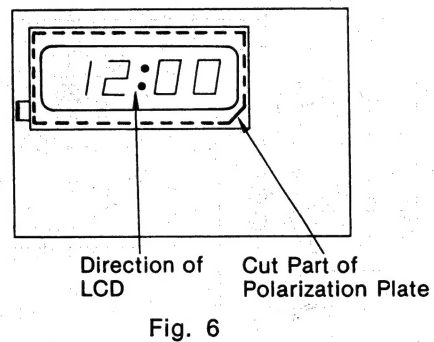

Fig. 6
1. Note that polarization plate, LCD and reflection plate must be installed under the specified conditions as shown in Fig. 6 and 7.